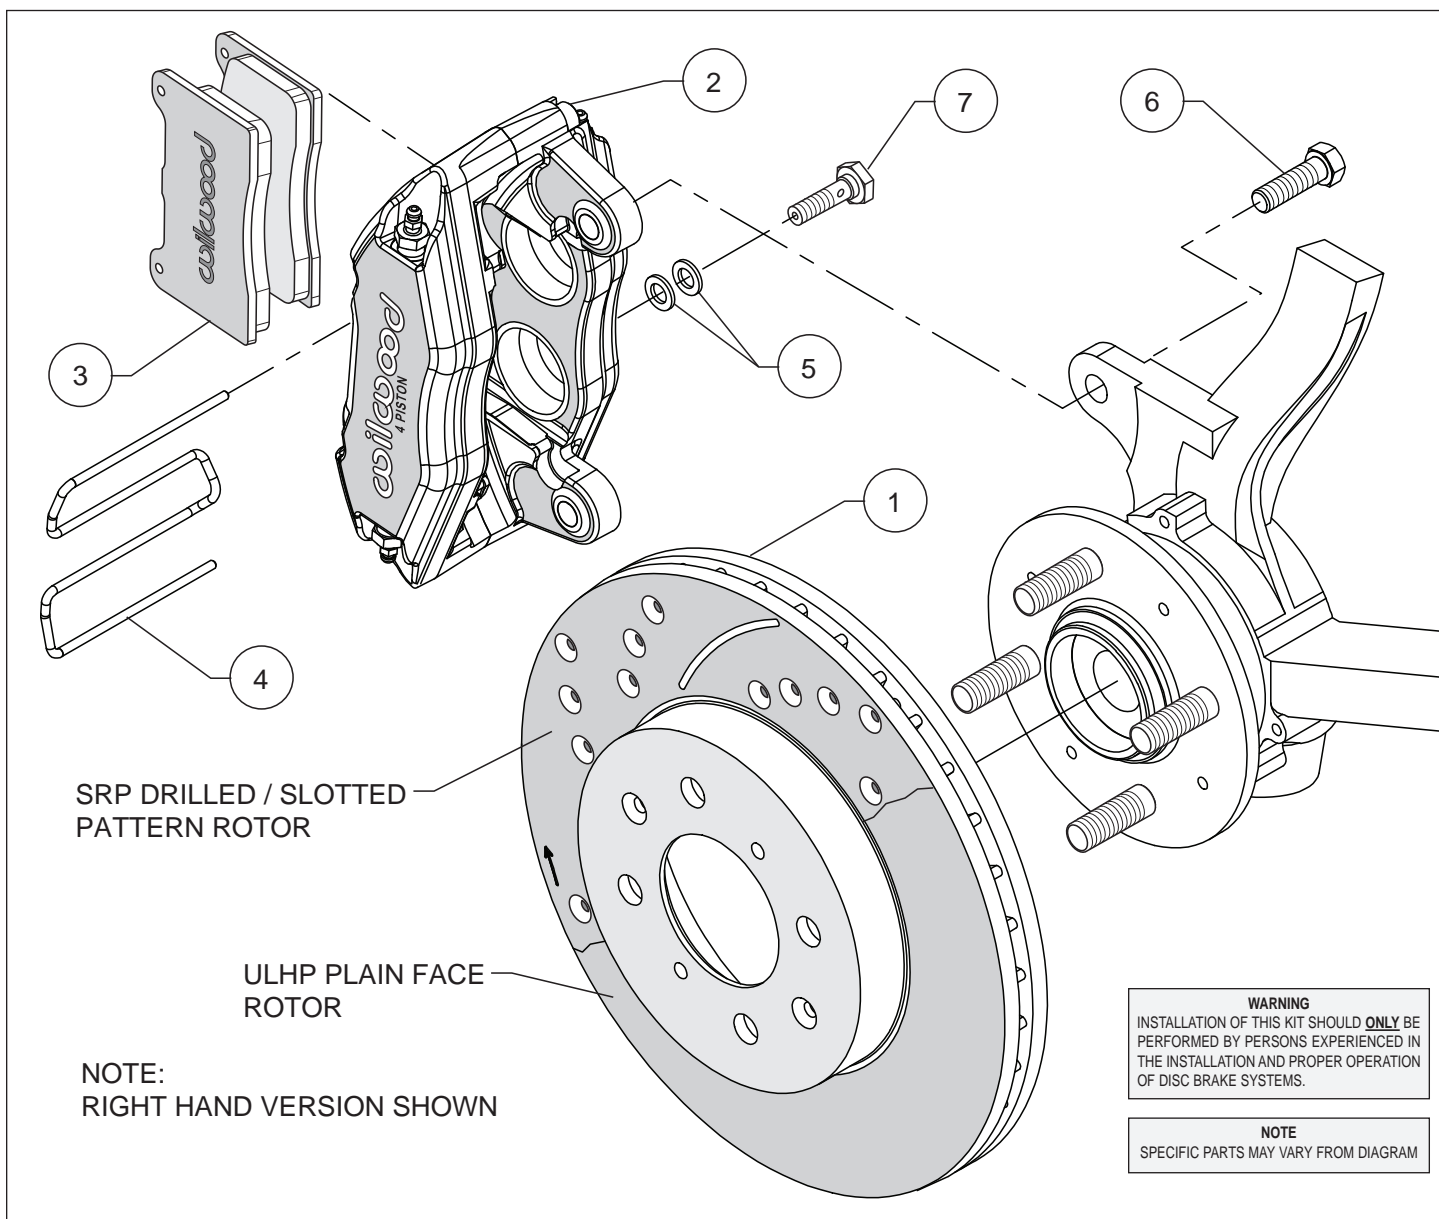

Figure 1. Typical Installation Configuration
Assembly Instructions (numbers in parenthesis refer to the parts list and Figure 1 on the preceding page):
• Slide the hat/rotor (1) onto the axle hub. **NOTE:** The hat must fit flush against the axle hub flange or excessive rotor run out may result. Install three lug nuts (finger tight) to keep the hat/rotor in place while continuing with the installation.
• Mount the new Wilwood caliper (2) onto the axle hub caliper mounting bosses using bolts (6) as shown in Figure 1. Apply red *Loctite*® 271 to the bolt threads and torque to 60 ft-lbs.
• Install the disc brake pads (3) into the caliper, with the friction material facing the rotor (1), and secure in place using pad clip retainer (4), Figure 1.